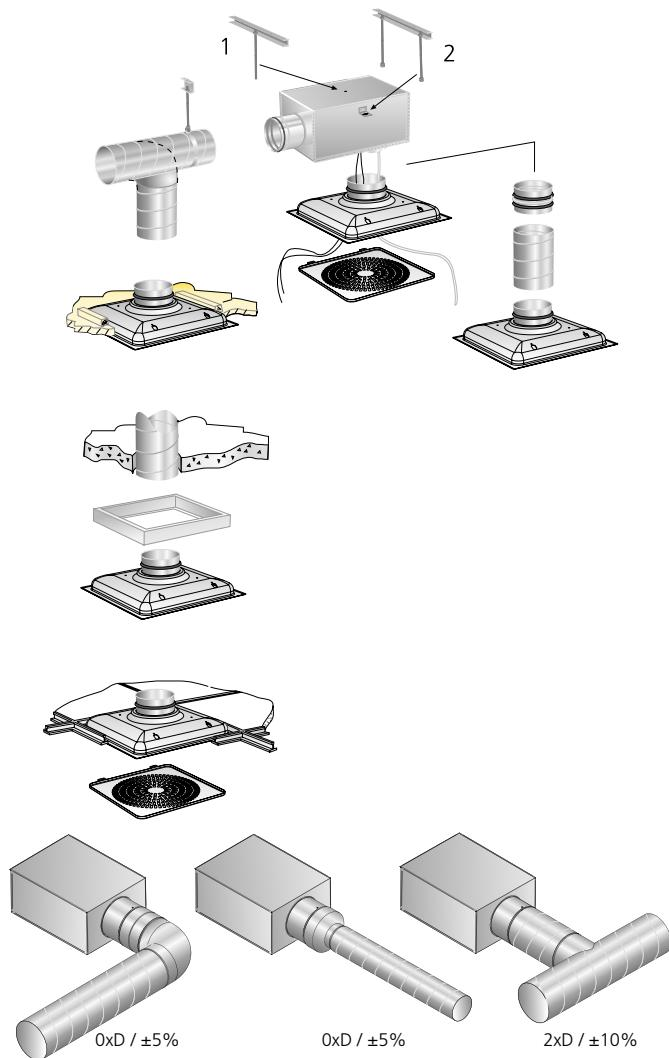

Figure 2. Installation options for the ALS commissioning box.
- The distance between the commissioning box and the air diffuser can be increased by as much as 500 mm without having to lengthen the measuring tubes and damper adjustment cords. See Figure 2.
- Measurement accuracy and straight section requirement before the commissioning box, see Figure 2.
- Figure 2 shows a bend, a change in dimension and T-piece.